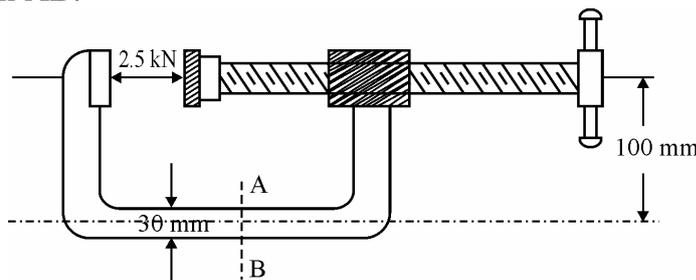

Fig. 6
- (f) A 'C' clamp made up of rectangular cross-section  $30 \times 10 \text{ mm}$  as shown in Fig. 6 is subjected to a force of  $2.5 \text{ kN}$ . Find the stresses induced at section AB.